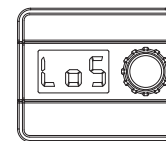

Fig. 53
7.3.5.2.2 - When the heater is in one of the working modes, the 12V/24V power cord is disconnected. The heater will be powered off directly. The "Circuit Board" will take the shutdown as an illegal shutdown. Follow the "7.3.1 - Startup" mode, the "Circuit Board" will perform the sweeping process (to clear the residual oil), and the buzzer will sound long once, and the screen displays "Los" (See Fig. 53). Please wait for a couple of minutes to enter into the normal startup process.
When you turn the heater on and the screen displays "Los" (See Fig. 53), indicating that it was an illegal shutdown last time. Please wait at least 5 minutes for the automatic processing to complete, and it will automatically switch to the normal power-on state.